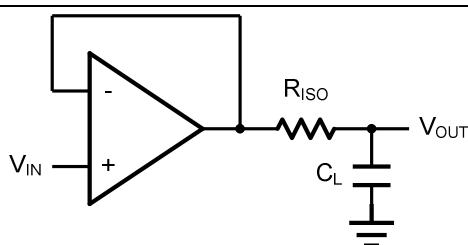
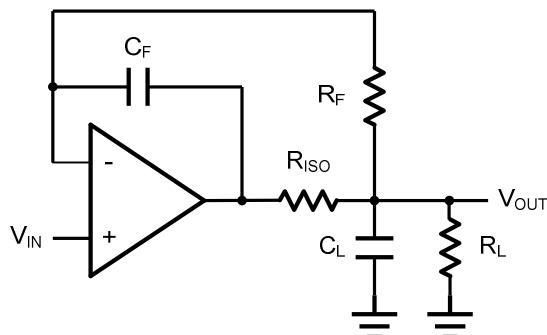

Figure 2. Indirectly Driving a Capacitive Load Using Isolation Resistor
Figure 3. Indirectly Driving a Capacitive Load with DC Accuracy
The LMV321 family is optimized for bandwidth and speed, not for driving capacitive loads. Output capacitance will create a pole in the amplifier's feedback path, leading to excessive peaking and potential oscillation. If dealing with load capacitance is a requirement of the application, the two strategies to consider are (1) using a small resistor in series with the amplifier's output and the load capacitance and (2) reducing the bandwidth of the amplifier's feedback loop by increasing the overall noise gain. Figure 2. shows a unity gain follower using the series resistor strategy. The resistor isolates the output from the capacitance and, more importantly, creates a zero in the feedback path that compensates for the pole created by the output capacitance.
The circuit in *Figure 3* is an improvement to the one in *Figure 2*.  $R_F$  provides the DC accuracy by feed-forward the  $V_{IN}$  to  $R_L$ .  $C_F$